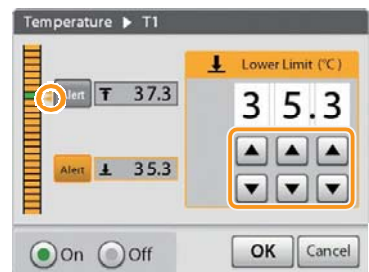

Figure 3-25
7. Tap ▲ or ▼ to input the lower limit value you want to set. (Figure 3-25)